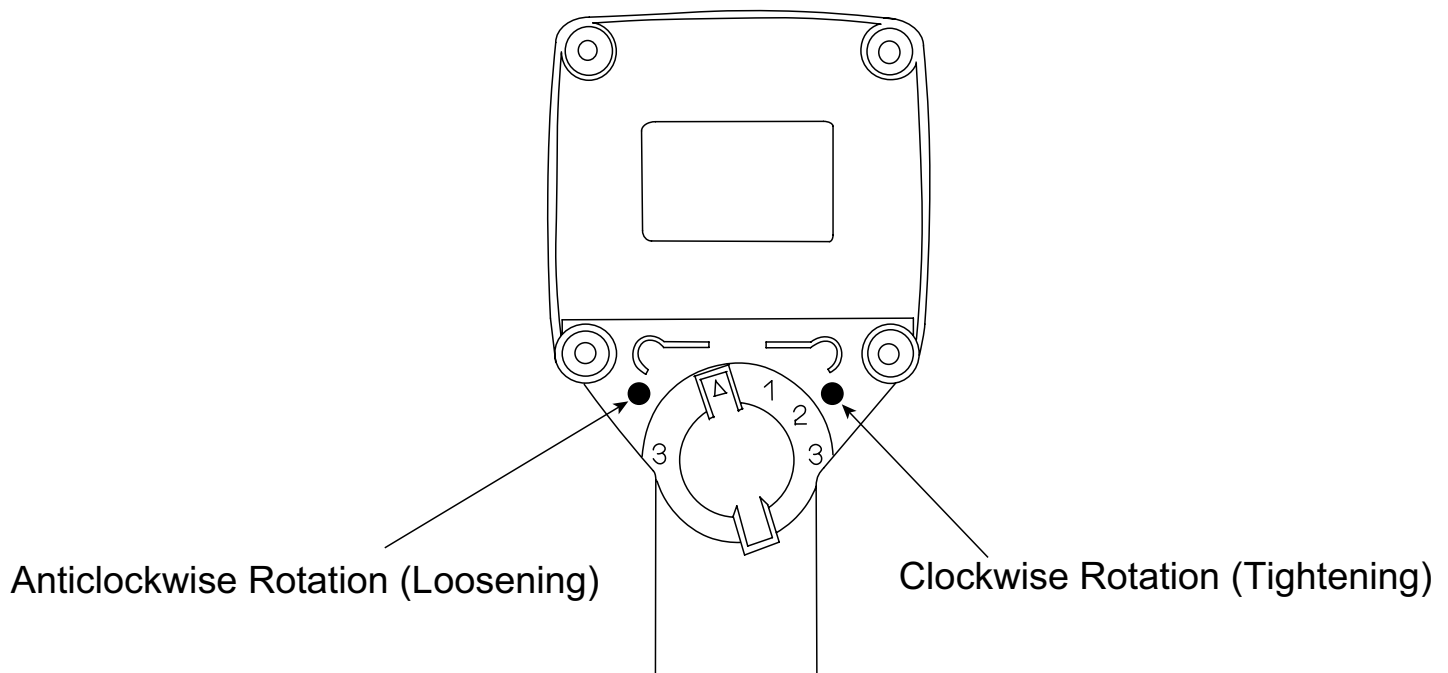

Fig. 2.5 Pneumatic Motor Settings for the Tightening / Loosening Torque
3. Torque Setting (refer to Figs. 2.5 and 2.7)
Several power settings can be applied to the pneumatic torque wrench. For each two speeds of the transmission gear (1 – working speed, 2 – fast speed) one of three settings can be selected for the pneumatic motor (see Fig. 2.5) and for each of these settings the air supply can be adjusted to achieve the required torque in accordance with the calibration / torque output chart supplied with the tool.